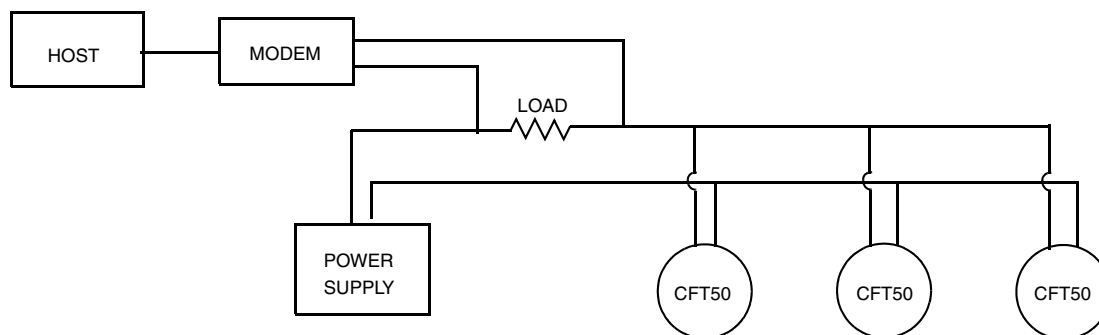

Figure 14. Typical Multidrop Network
Figure 14 shows a typical multidrop network. Do **not** use this figure as an installation diagram. Contact the HART Communications Foundation, (512) 794-0369, with specific requirements for multidrop applications.